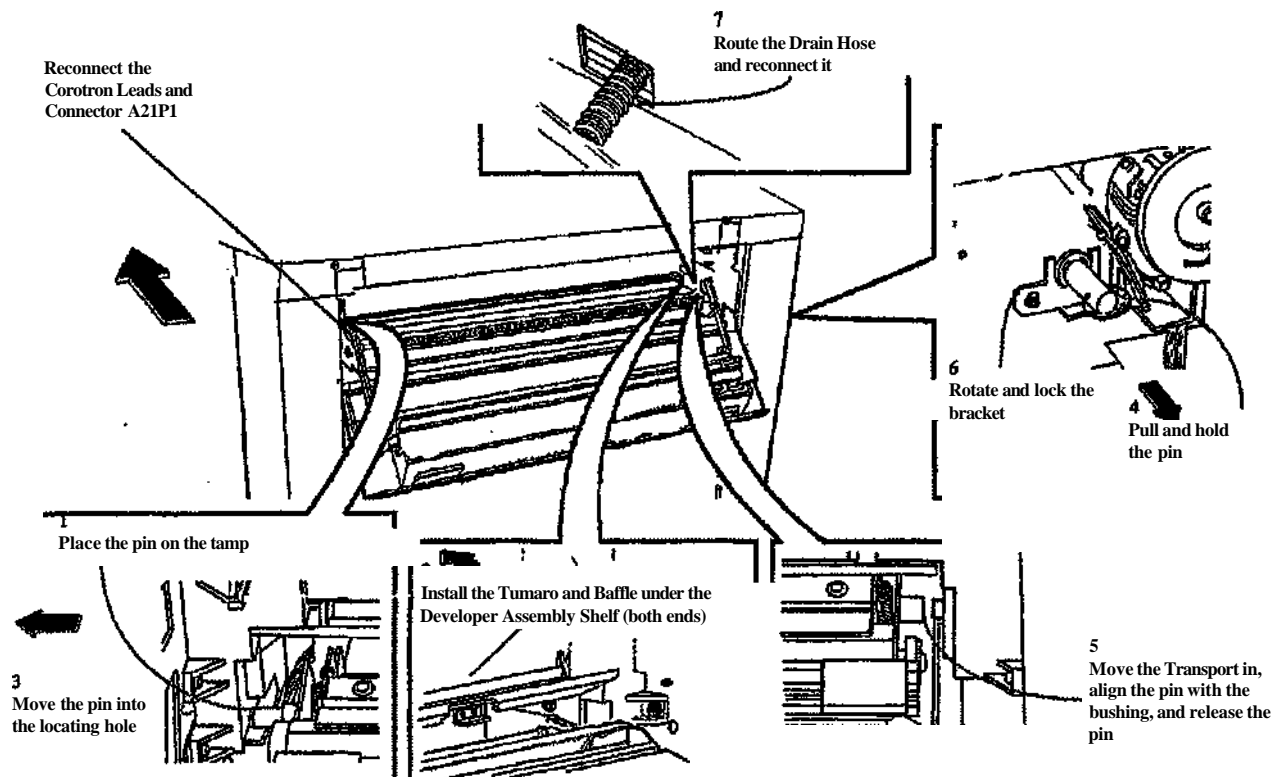

Figure 4. Reinstalling the Media Transport Assembly
3. (Figure 4): Reinstall the Media Transport Assembly.